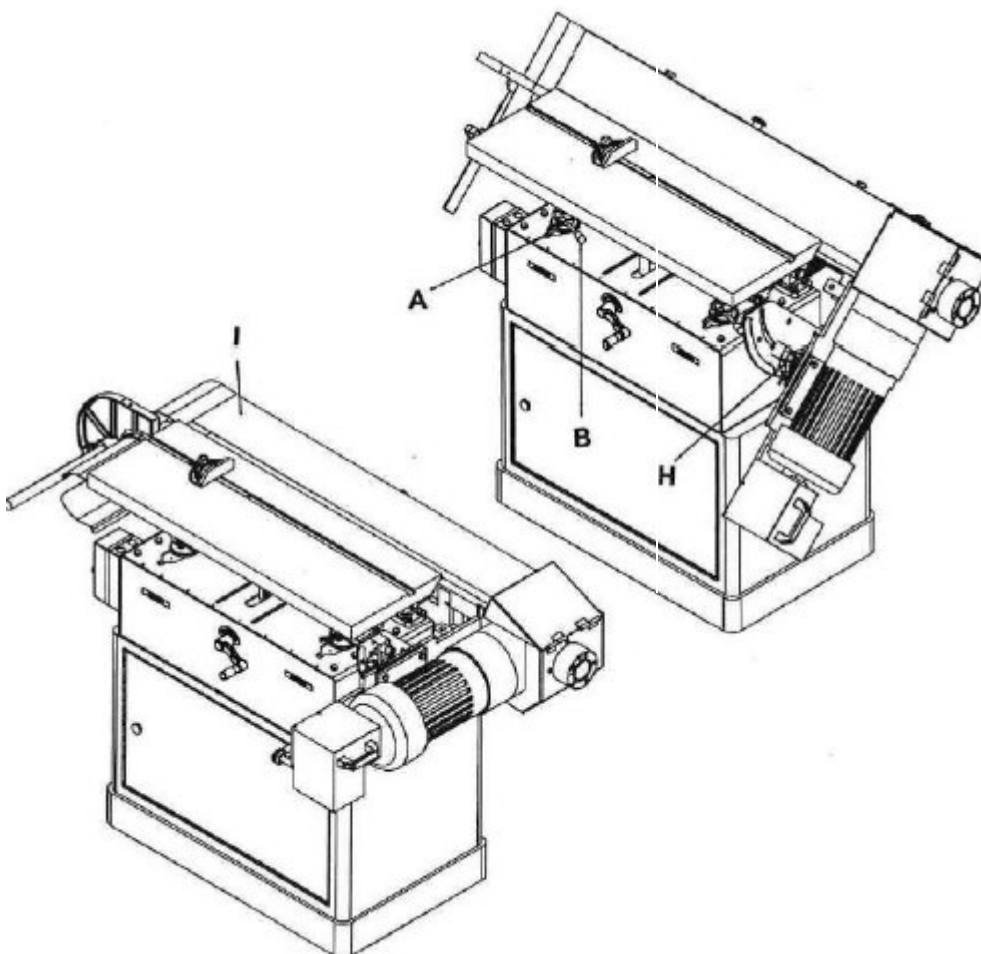

Fig.10-1: Vertical and horizontal grinding
Step 1: First, loosen the two knobs (Pos. A, Fig. 10-1) and (Pos. B, Pos. 10-1) under the work table and pull the table backwards.
Step 2: Loosen the adjustment knob (Pos. H) on the scale and set the desired angle by You move the plate (Item I). Lock the adjustment knob (Item H, Fig. 10-1) again once the angle has been set.